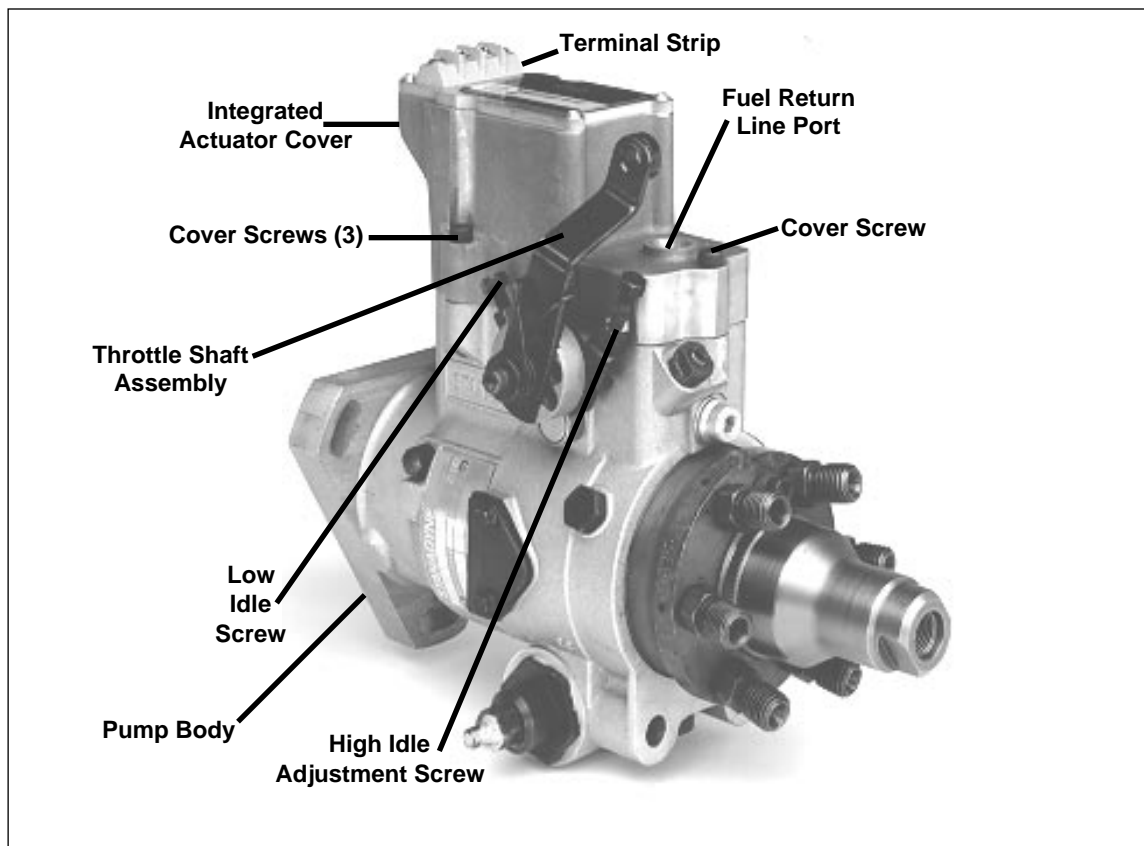

Figure 6
3.0 Position the SHUT-OFF SHAFT ASSEMBLY (if equipped with one) in the "Fuel On" position by rotating it in the direction shown in Figure 6 until it reaches its limit of travel. Secure the SHUT-OFF SHAFT ASSEMBLY in place with existing mechanical linkage. A spring may be used to hold it in place when there is no linkage.
3.2 Adjust the droop by turning the DROOP ADJUSTING SCREW in a counterclockwise (CCW) direction until it stops. See Figure 6. Some pumps may not be equipped with a speed droop adjustment.
6.5 Keep increasing the speed until it is approximately 20 RPM higher than the speed calculated in Step 5.1. If this speed cannot be obtained, loosen the jam nut on the HIGH IDLE SPEED ADJUSTMENT SCREW of the THROTTLE LEVER and turn the HIGH IDLE ADJUSTMENT SCREW counterclockwise (CCW) until the calculated speed can be obtained. *See Figure 6.*